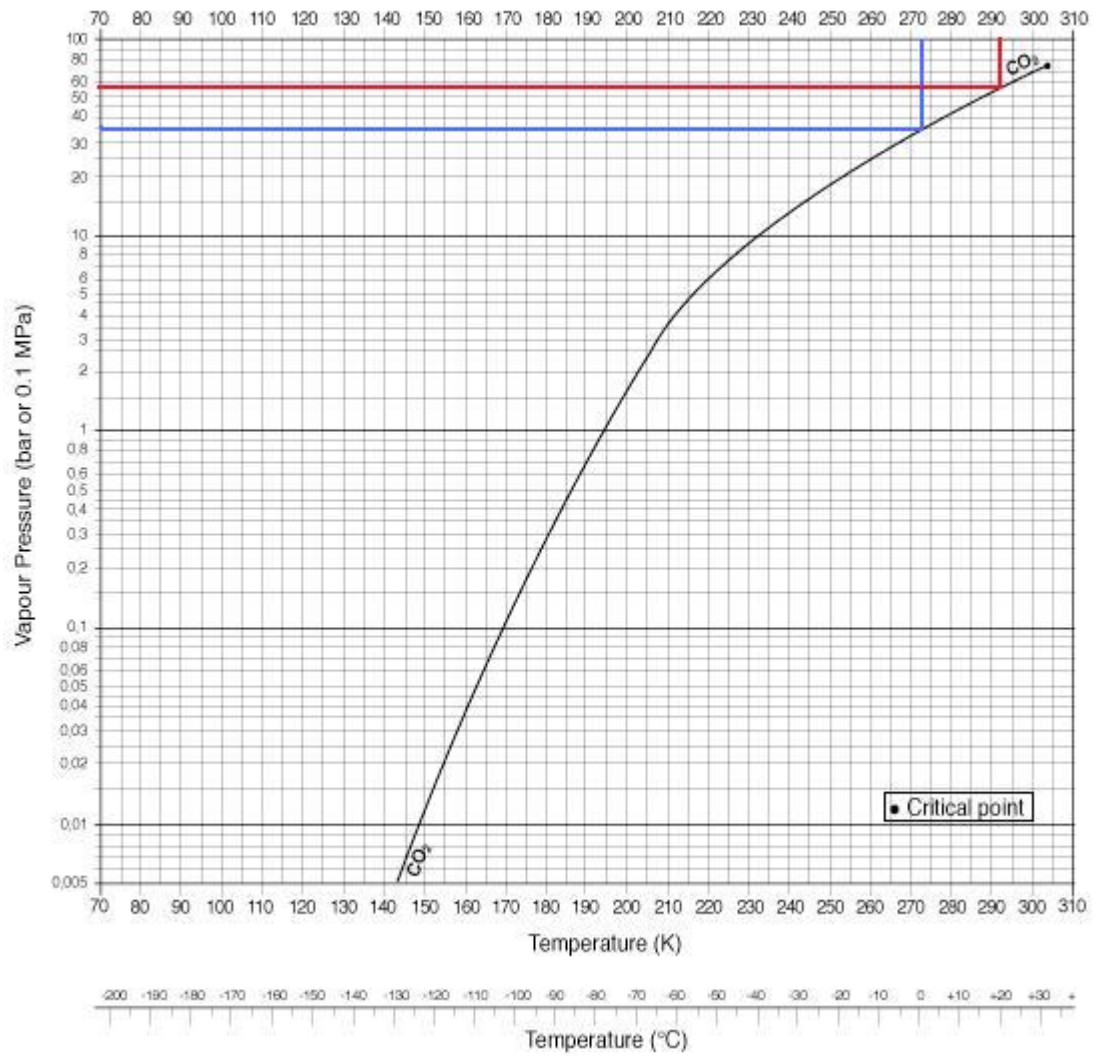
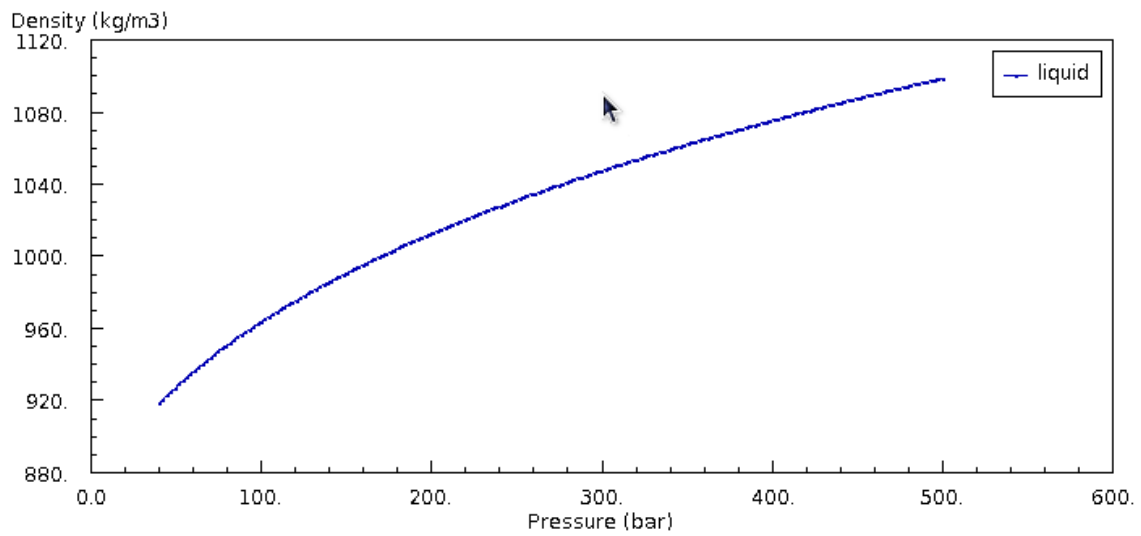

Figure 3 : Boiling curve of carbon dioxide
Figure 4 : Density of carbon dioxide as function of pressure at 275K. Source NIST (<http://webbook.nist.gov/>)
2. Figure 3 gives the boiling curve of CO2 as function of pressure. Can liquid storage on the ocean floor be envisaged? If yes, below which depth? (Liquid water is barely compressible, its density varies between 1020 kg/m3 at the surface and 1050 kg/m3 on the ocean floor). Density of liquid carbon dioxide is given in figure 4).